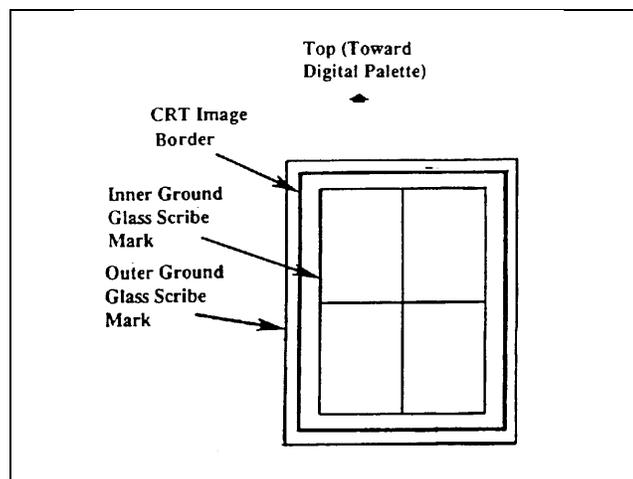

Figure 4-39. Final Assembly Alignment Gauge Scribe Marks
5. View the image on the ground glass of the final assembly alignment gauge (Figure 4-39) and verify that the image is centered and not tilted.
6. Verify that the image coincides with the scribed lines in the center of the gauge, and that the line around the perimeter of the image falls between the inner and outer scribe marks on the gauge (Figure 4-39).